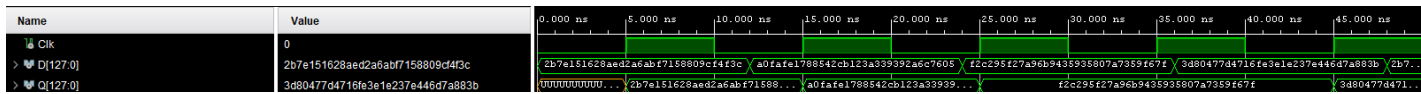

Figure 10: Register Test Bench
The Register module takes a 128-bit sequence as input and outputs the same 128-bit sequence. The test bench was conducted by applying a clock signal and feeding a 128-bit value to the data input (D). At each rising edge of the clock (Clk), the value of D is captured and passed to the output (Q). The expected result was achieved, with the register correctly storing and outputting the value at each clock cycle. When D changes, the corresponding value is reflected in Q at the next clock edge, confirming that the register is correctly capturing and storing the input data. The waveforms obtained by the test-bench of this module can be seen in figure 10.